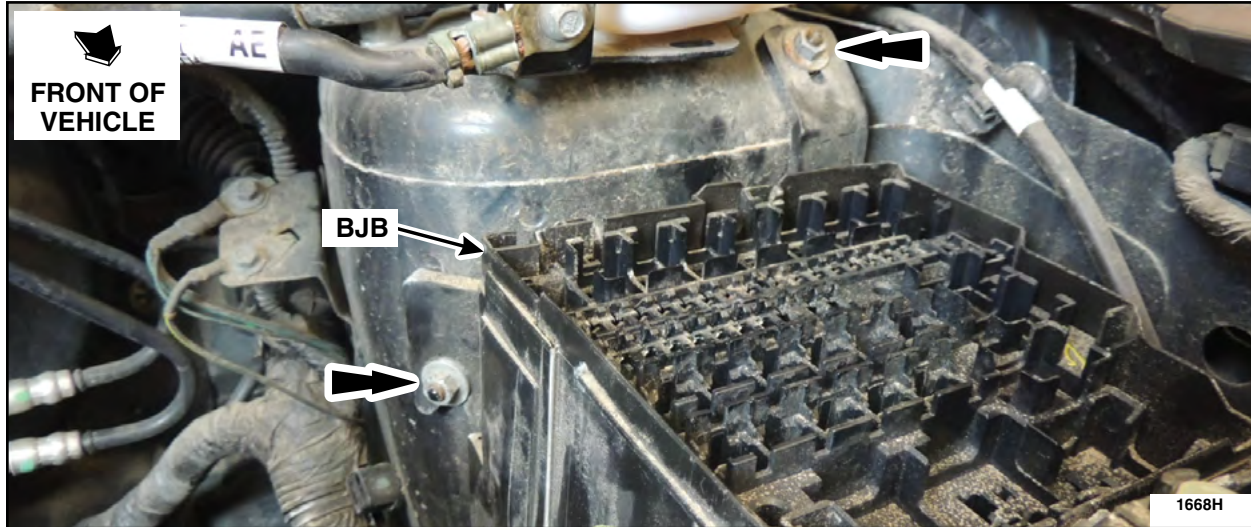

FIGURE 2
4. Remove the two nuts from the BJB. See Figure 2.
8. Install the two BJB nuts. See Figure 2.